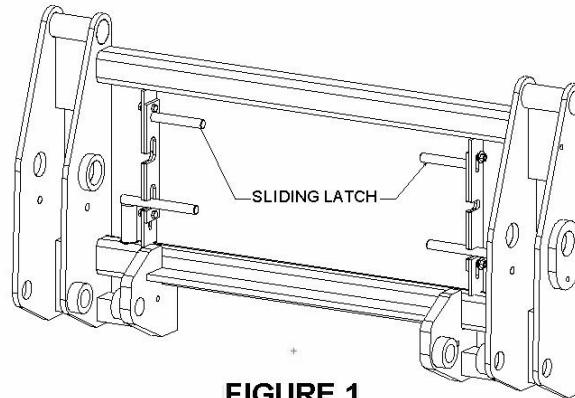

FIGURE 1.
STEP 1 Approach the loader as shown in Figure 1 and connect the hydraulic hoses.
STEP 1 *DRIVE THE TRACTOR ONTO FLAT CONCRETE* and place the loader in the position shown in Fig 1.
1. Raise sliding latches as shown in Figure 1.
3. Rotate QT pins out of the upper notches, lower, and then rotate them into the lower notches on the sliding latches as shown in Figure 1. **NOTE:** If the QT pins do not easily slide thru the lug on the attachment, do not force them. Simply rotate the attachment back and forth slowly with the bucket cylinders of the loader and the QT pins should fall into place. Periodically grease the QT pins and sliding latches.